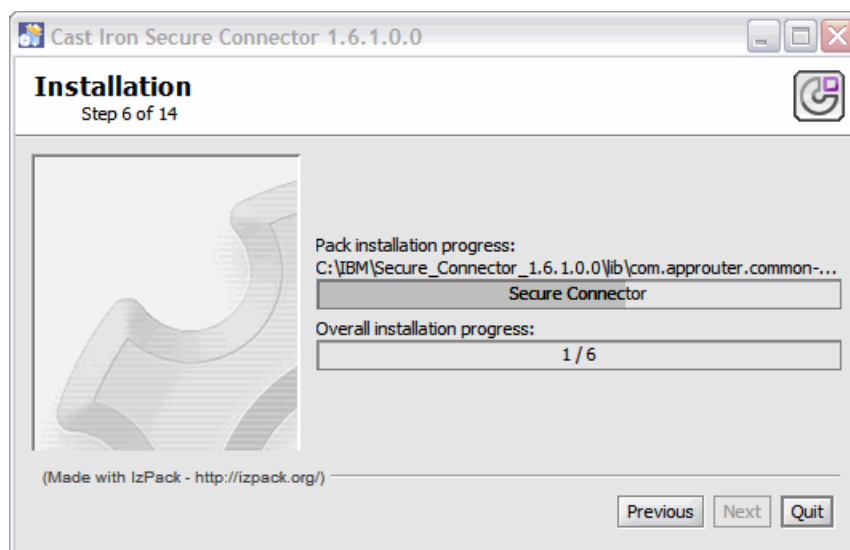

Figure 2-39 Cast Iron Secure Connector installation progress bar
9. Now the installer starts the installation, as shown in Figure 2-39.